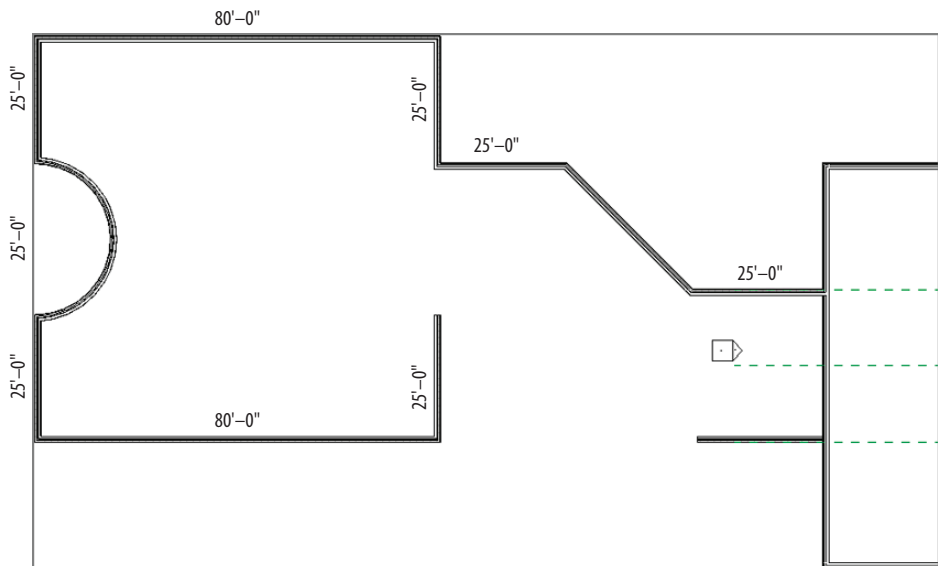

FIGURE 2.10: The building up to this point
25. Press Esc. Your building should look like Figure 2.10.